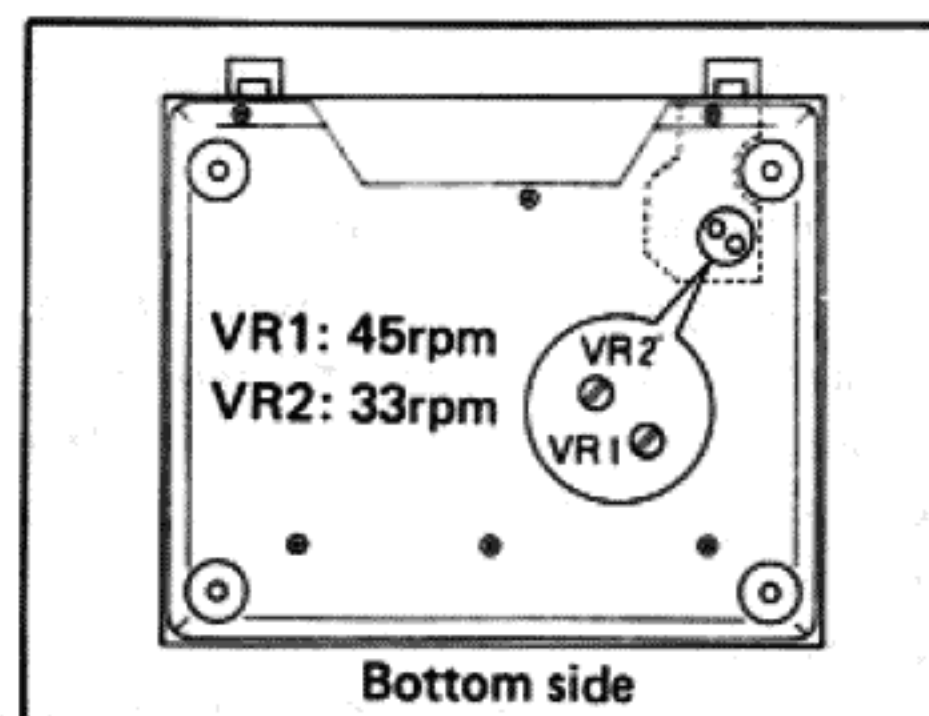

Fig. 18
4. Turn the VR2 with a screw driver from the lower part of the set to the rated rotation (33—1/3 r.p.m.) and check the rotation with a strobe while adjusting the speed. (See Fig. 18)
6. Turn the VR1 with a screw driver from the lower part of the set to the rated rotation (45 r.p.m.) and check the rotation with a strobe while adjusting the speed. (See Fig. 18)